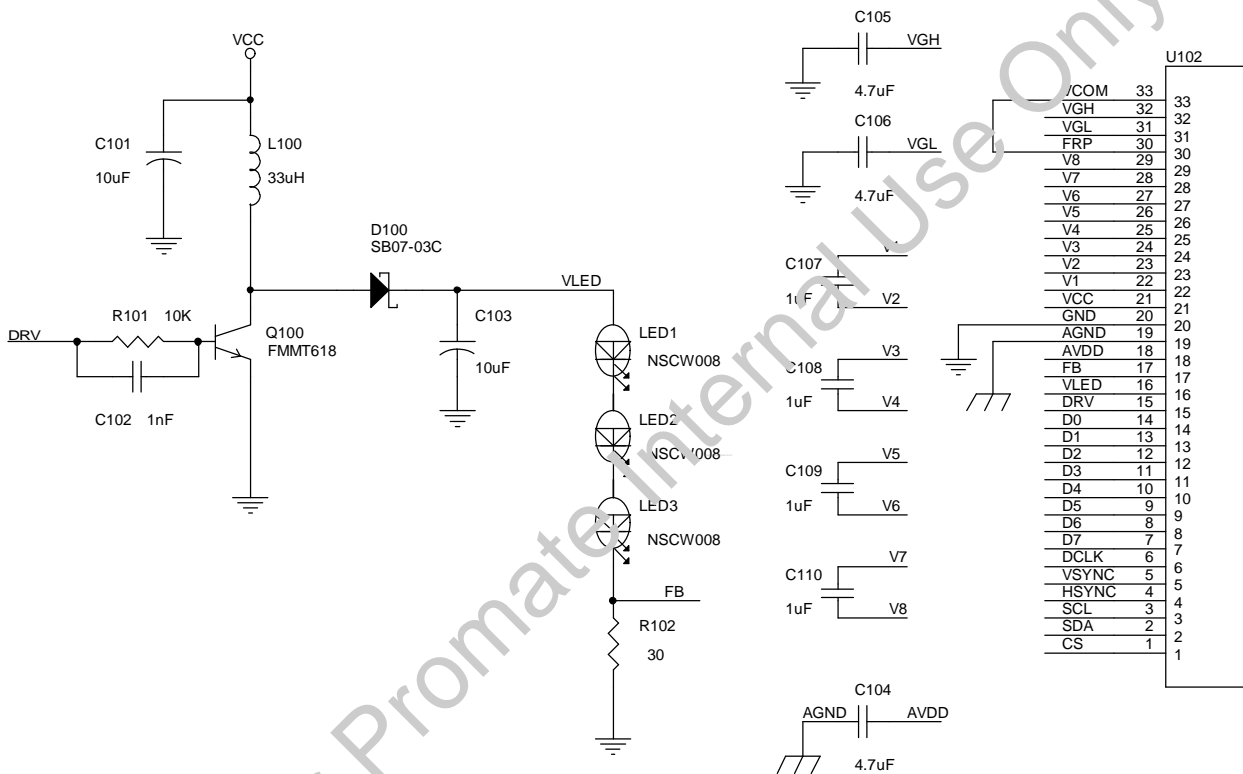

Fig.11 Internal LED boost Circuit
The integrated driver IC provides build-in LED booster controller, DC-DC charge pump, and Vcom driver. See Fig. 11 for the application circuit.
According to Fig. 11, the L100, Q100, D100, and C103 together form the LED boost converter. The converter with 0.6V feedback (FB) and R102 provide a constant 20mA current for LED backlight unit. The boost converter switching signal DRV is generated based on the divided frequency of DCLK. Therefore the DCLK input is required for LED driver operation, and the absence of DCLK signal during normal operation will set the driver IC into standby mode. A low ESR capacitor for C103 is recommended in order to reduce voltage ripple of